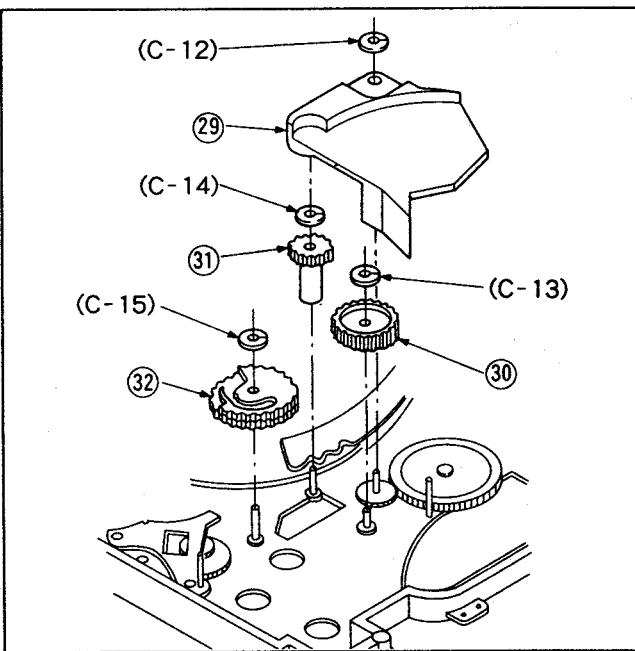
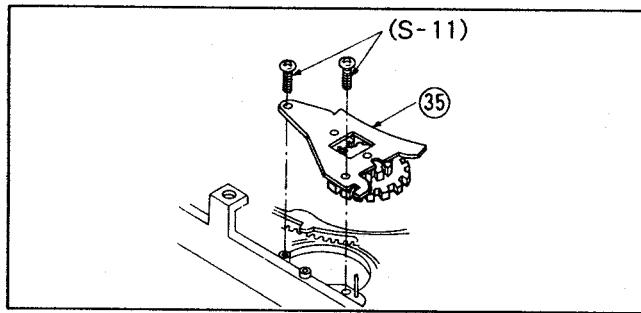
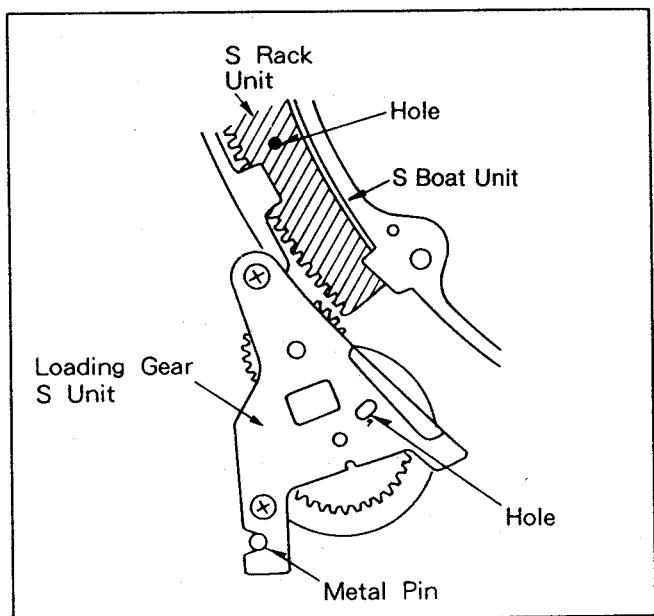
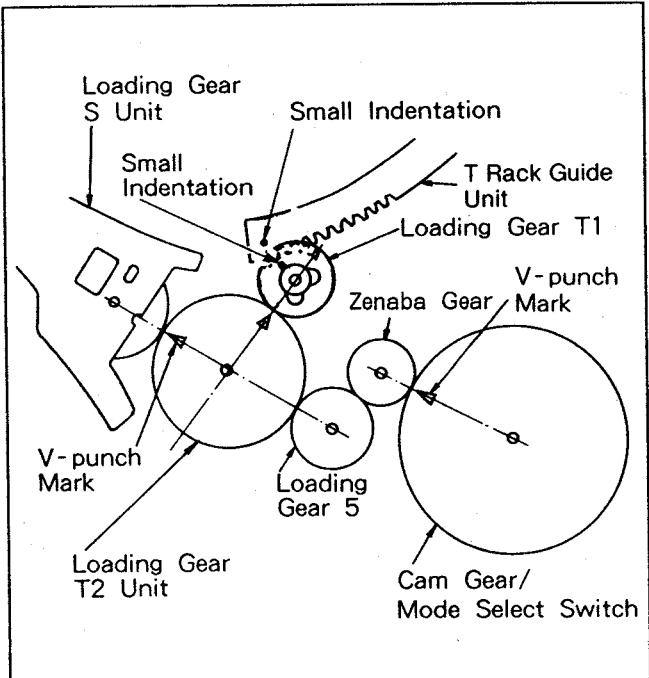

Fig. M13
Fig. M17
Fig. A3
Fig. A4
- 31) Remove band guide. See fig. M13
39) Remove loading gear S assembly. See Fig. M17.
- 7) Reinstall the loading gear S assembly. See Fig.M17. See Fig. A3 for alignment procedure.
- 10) Check loading gear S assembly alignment as shown in Fig. A3. reinstall T2 loading gear. See Fig.M13. See Fig. A4 for alignment procedure.
- 11) Reinstall T1 loading gear aligning the small indentation on the T1 gear with the timing mark on the T rack guide unit. See Fig. A4.